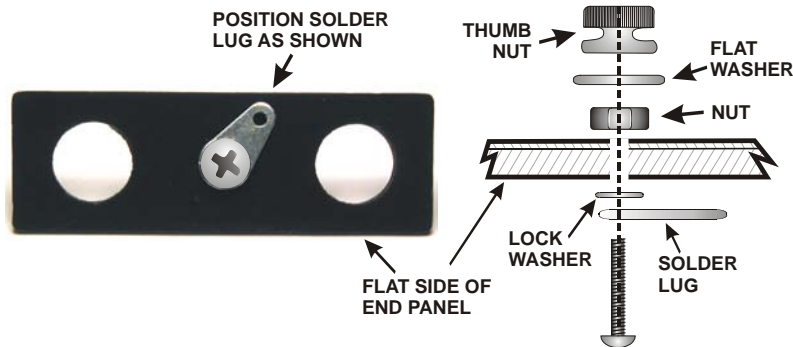

Figure 15. Ground Screw Assembly.
- Assemble the ground screw hardware as shown in Figure 15. Tighten the hex nut and screw securely so that tightening the knurled thumb nut will not loosen the assembly.